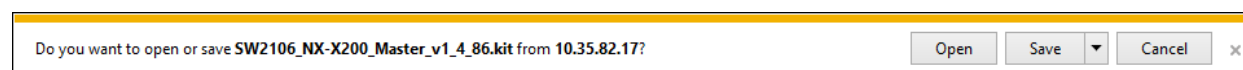

FIG. 52 Downloading a Copy of a selected Firmware File
4. The browser will prompt you to Open or Save the file (FIG. 52):